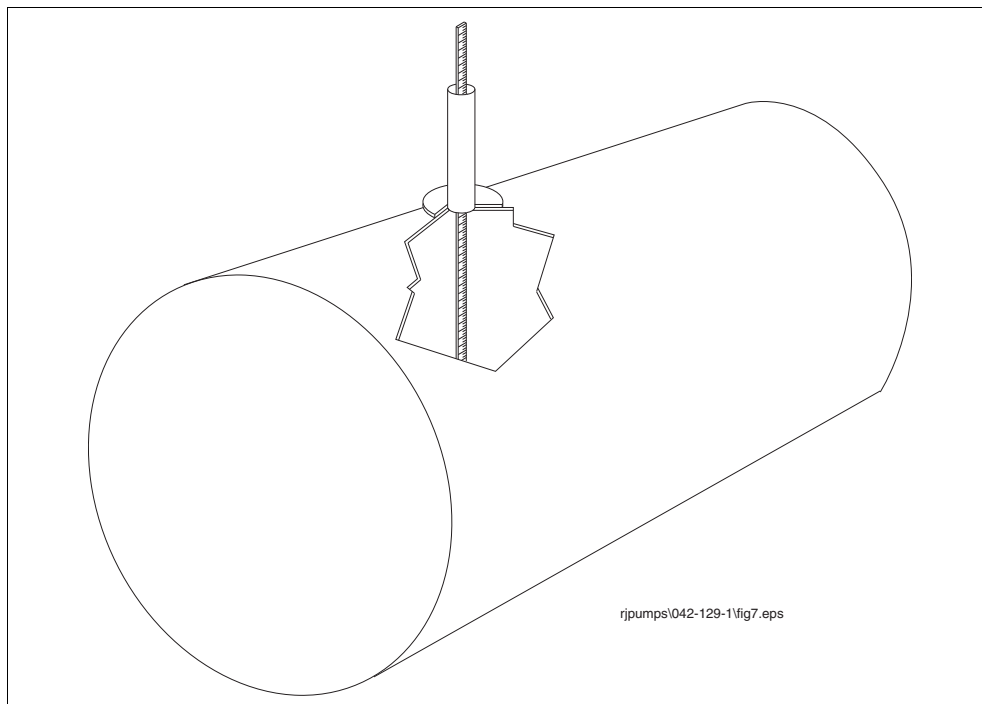

Figure 9. Measuring Tank
2. Measure the distance from the bottom of the tank to the top of the 4 inch riser pipe as shown in Figure 9. Confirm the installed length of the pump maintains adequate clearance from the pump inlet to the bottom of the tank (see Figure 4).